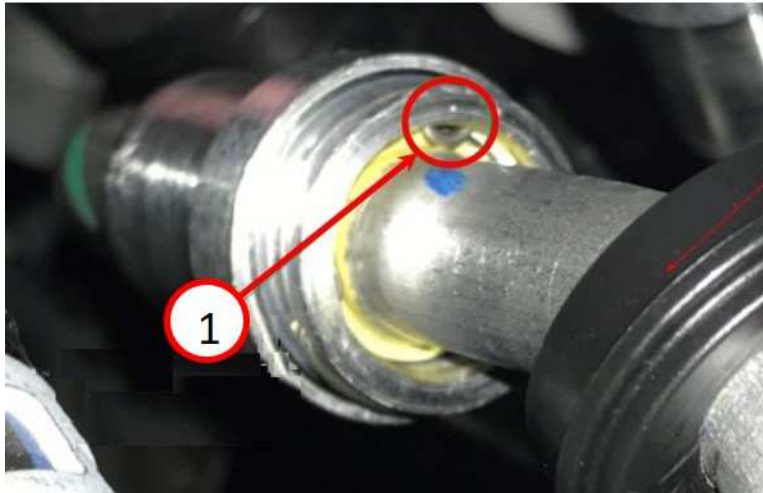

Fig. 2
2. Look for the line to be fully seated. Three spring clip loops should be visible (Fig. 2) .